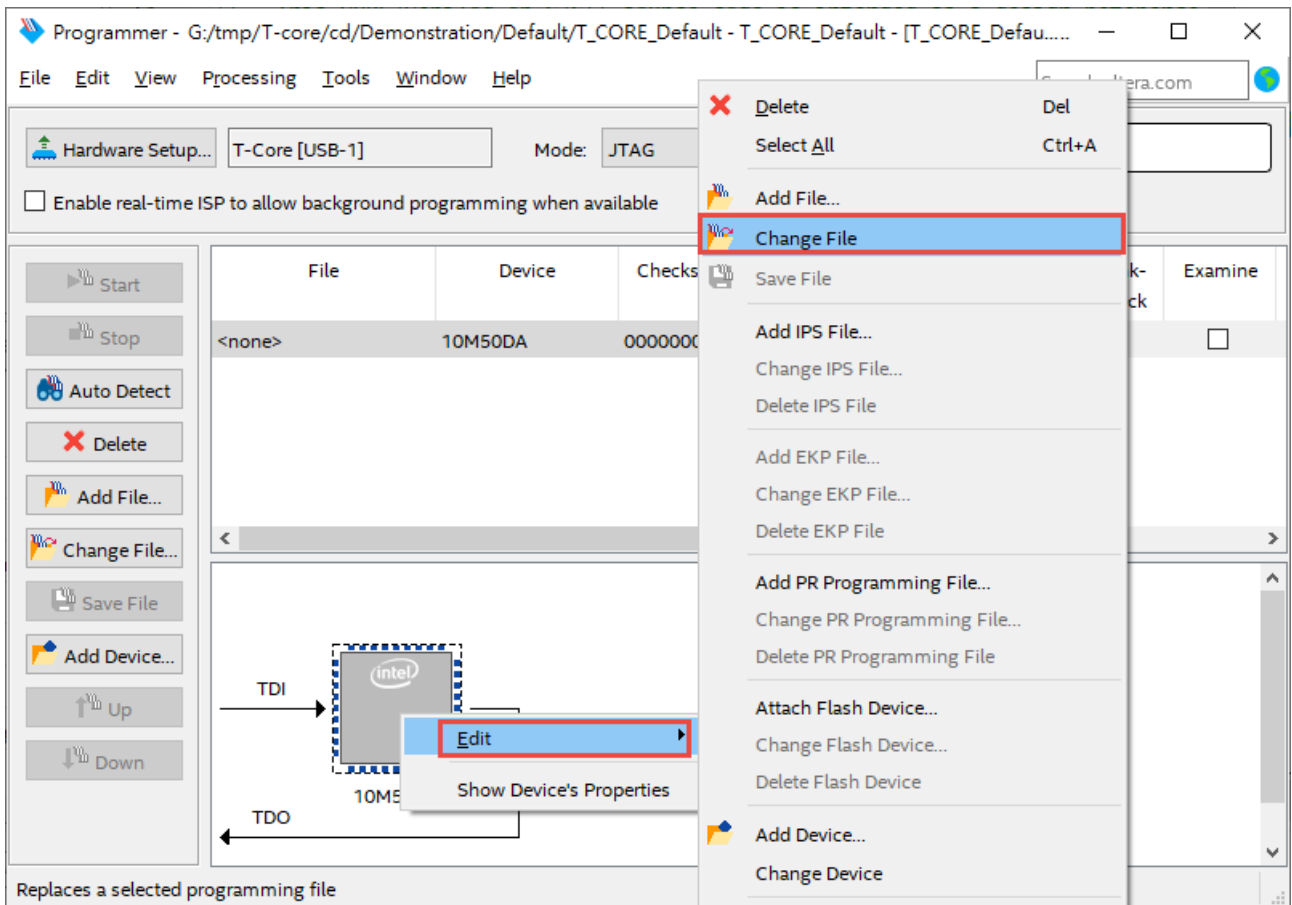

Figure 2-8 Open the .sof file to be programmed into the FPGA device
7. Right click on the FPGA device and click “Change File” to open the .sof file to be programmed, as highlighted in **Figure 2-8**.